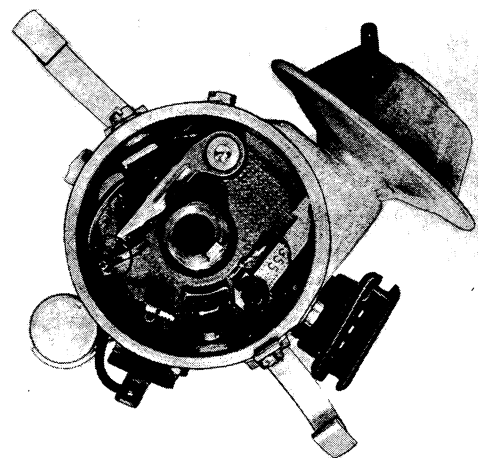

Fig. 3-79. Recess for adjusting breaker contacts
2. Adjustment is made by slackening a little the screw for the breaker contacts and then inserting a screwdriver in the recess, Fig. 3-79, and turning the screwdriver until the dwell angle is the correct one.